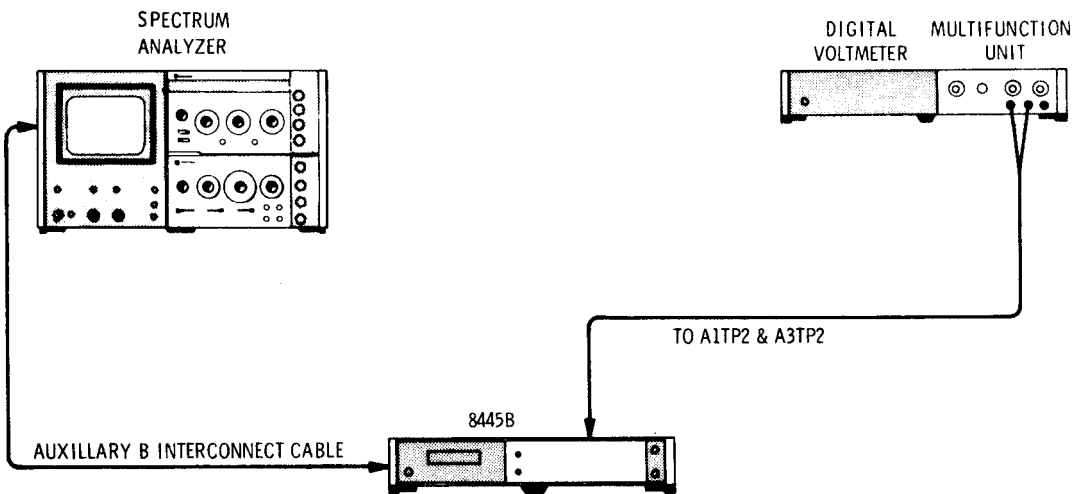

Figure 5-2. Pre-Driver Adjustment Test Setup
1. Connect test setup as shown in Figure 5-2.